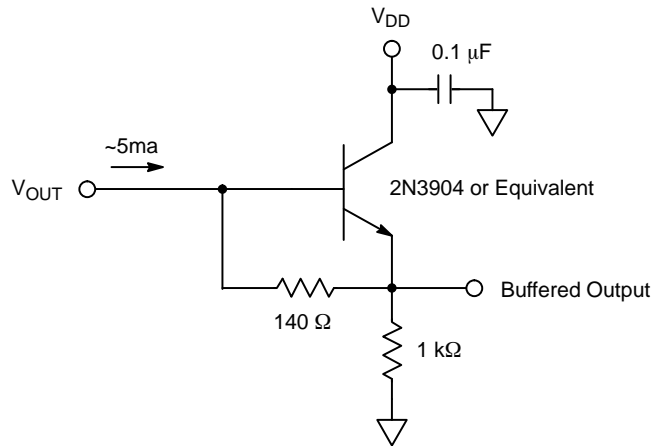

Figure 15. Example Output Structure Load Diagram
1. An output load sink must be applied to V_{OUT} to provide a constant current source and activate the output amplifier – see Figure 15.